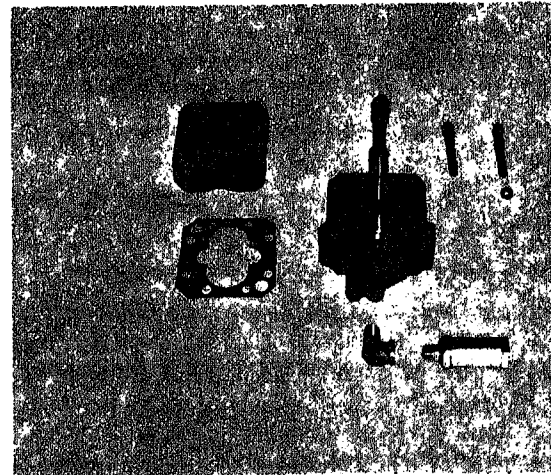

Fig. 504-2 Gear pump with integral cooling
**Caution:** Engines with integral cooling gear pumps (Fig. 504-2) must not be run with the fuel bleed hole plugged.